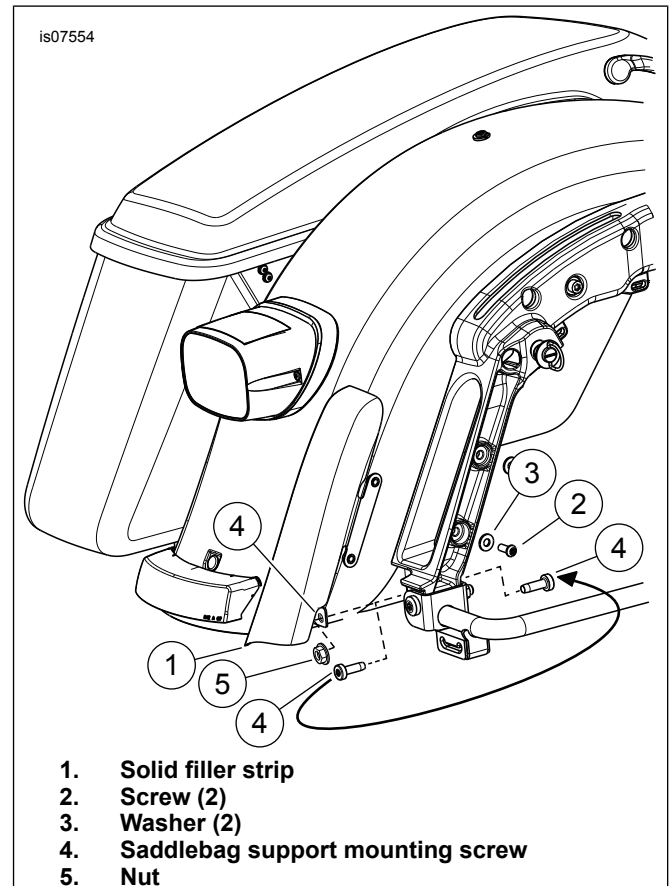

Figure 1. Solid Filler Strip Installation
2. See Figure 1. Remove bottom saddlebag support mounting screw (4) and nut (5). Save hardware for installation.
4. Secure the filler strip with screws (2) and washers (3). Tighten screws finger tight.
5. Install the filler strip to the support bracket with support mounting screw (4) and nut (5). Install screw from front to rear. Do not tighten.
- a. Tighten button head screws (2) to 6.8–10.8 N·m (5–8 ft-lbs).
- b. Pan head screws (4) to 20.3–27.1 N·m (15–20 ft-lbs).